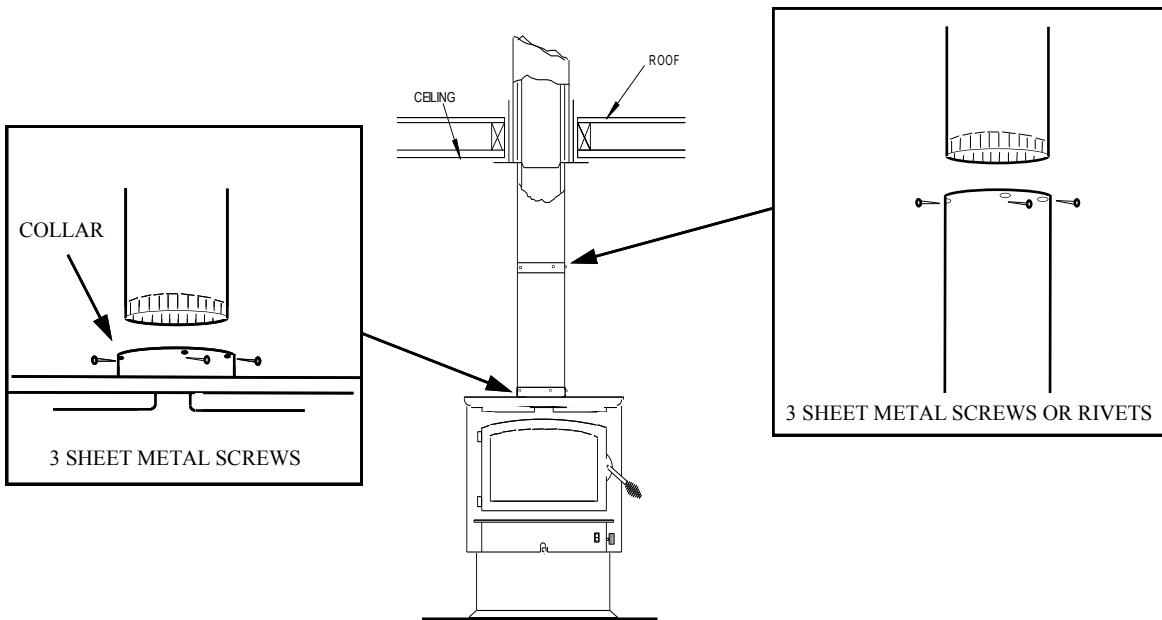

Figure 14
1. Suspend a plumb bob from ceiling above unit so that weight is hanging in center of flue exit. (A small weight on a string will serve as a plumb bob). Mark ceiling where string is suspended to locate center of chimney. (See Page 16, Figure 14).
Now connect stove and ceiling support box using #24 ga. minimum blue or black steel connector pipe (**DO NOT USE GALVANIZED PIPE**). Connect each section so crimped end faces downward and secure each section to each other using at least three (3) sheet metal screws or rivets. Also use three (3) sheet metal screws to fasten pipe to collar on heater. (See Page 16, Figure 14).
DO NOT use galvanized pipe. Connect each section so the crimped end faces downward and secure each section to each other using three (3) sheet metal screws or rivets. (See page 15 Figure 14).
- (c) Secure each section to each other using at least three (3) sheet metal screws or rivets. (See Page 15, Figure 14).
- (d) Use three (3) sheet metal screws to fasten pipe to connector collar on heater. (See Page 15, Figure 14).